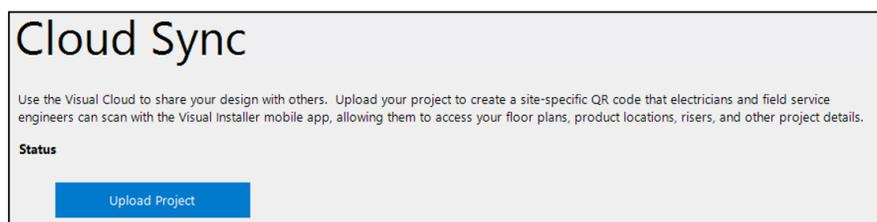
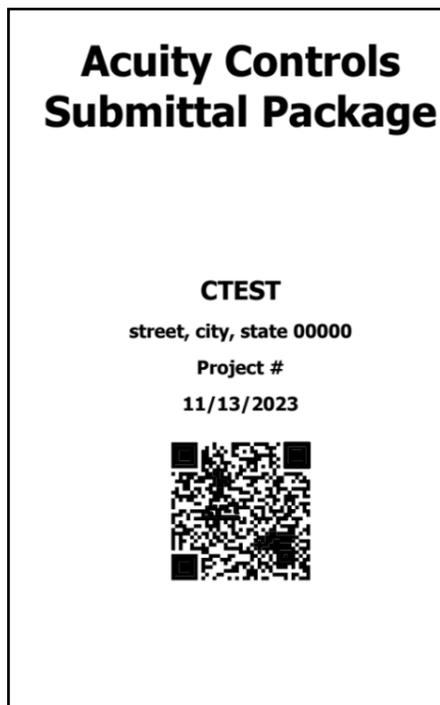

Figure 64: Cloud Sync Menu
Figure 65 : Cover Page
1. From the Cloud Sync section of the File menu, press the Upload Project button (**Figure 64**).
After sites have been added uploaded to the cloud, a site-specific QR code is generated and can be viewed in the Cloud Sync section (**Figure 64**), the project's title block, or the submittal cover page (**Figure 65**). The QR code can be scanned via the Visual Installer mobile app, which will then allow the user 48-hour access to the project's details that were uploaded to the cloud. Access can then be extended by scanning the QR code again or by adjusting a user's access expiration via the Visual Cloud portal.